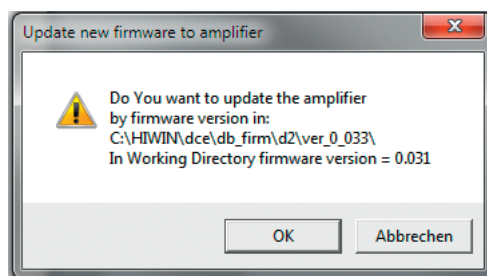

Fig. 6.68 “Upgrade/Downgrade firmware” – “Update new firmware to amplifier”
- ▶ “Lightening” opens a new **“Update new Firmware to amplifier”** message window. Press **“OK”** button (see Fig. 6.68).